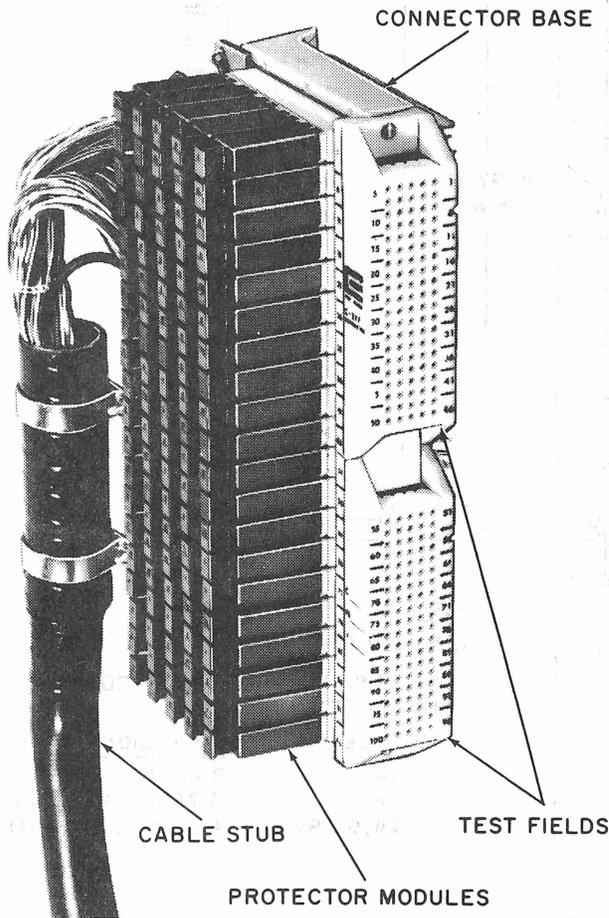
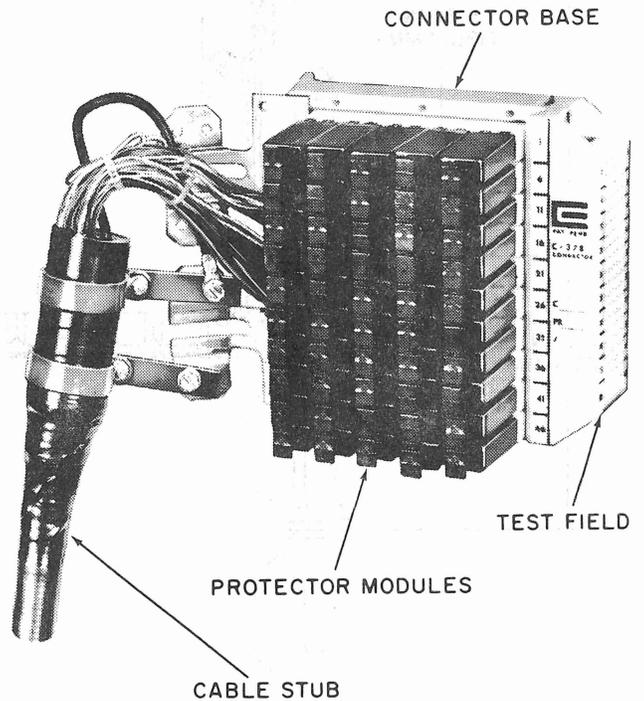

Figure 1. C-377 Connector (100 Pair)
Figure 2. C-378 Connector (50 Pair)
**1.01** The C-377 Connector (figure 1) is a compact size, 100 pair unit designed to terminate outside plant cables in central offices or customer premise locations where current (heat coil) and/or voltage (carbon arrester or gas tube) cable pair protection is required. The Connector can be used without protection (using straight-thru modules) if only the termination features are desired.
**1.02** The C-377 Connector consists of a connector base, designed for quick installation on an MDF (main distribution frame) and protector modules, which plug into the connector base (see figure 1). This Connector and its complement of protector modules provides features for testing, identification of incoming circuits, and disconnection of outside cable pairs in addition to current and voltage protection. Various catalog options provide for ordering units with or without a cable stub, with any of the basic protector modules, or without any protector modules (connector base only). If only 50 pair capacity is required, an alternate compact type C-378 Connector is available, with all the features of the 100 pair unit (figure 2).